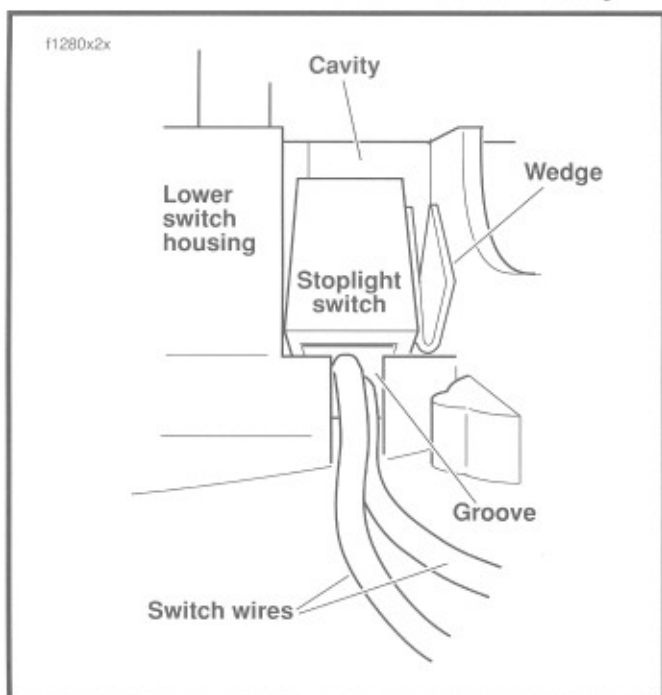

Figure 7-79. Install Stoplight Switch
6. See Figure 7-79. Push down on switch so that it bottoms against housing and wires run in groove at base of cavity. With the concave side facing outward, insert wedge between switch and outboard side of switch housing.